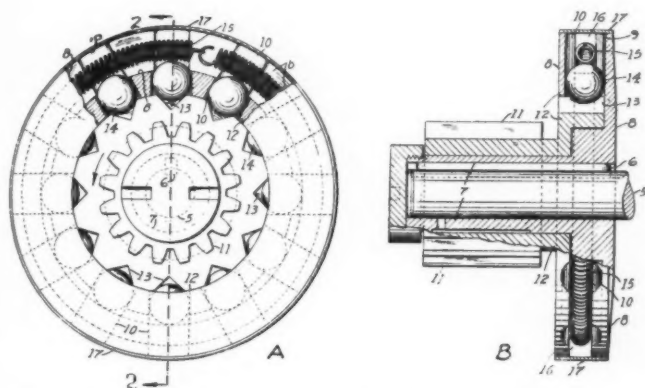

Fig. 1-A—End elevation of slip coupling showing clutch elements. B is a cutaway side view
Fig. 1 A shows an end elevation of the coupling; B is a sectional side elevation taken on the line 2-2 of A. Driving member or drive shaft 5 has sleeve 7 fastened to it by means of a key 6, this forming the hub of a disk 8 having an annulus 9 provided with radial channels 10. On the sleeve 7 is loosely mounted the driven spur gear 11, a flanged extension 12 which protrudes into disk 8, the flange 12 having on its periphery a number of equally spaced V-shaped notches or depressions 13 which register with the radial channels 10 of the disk 8.